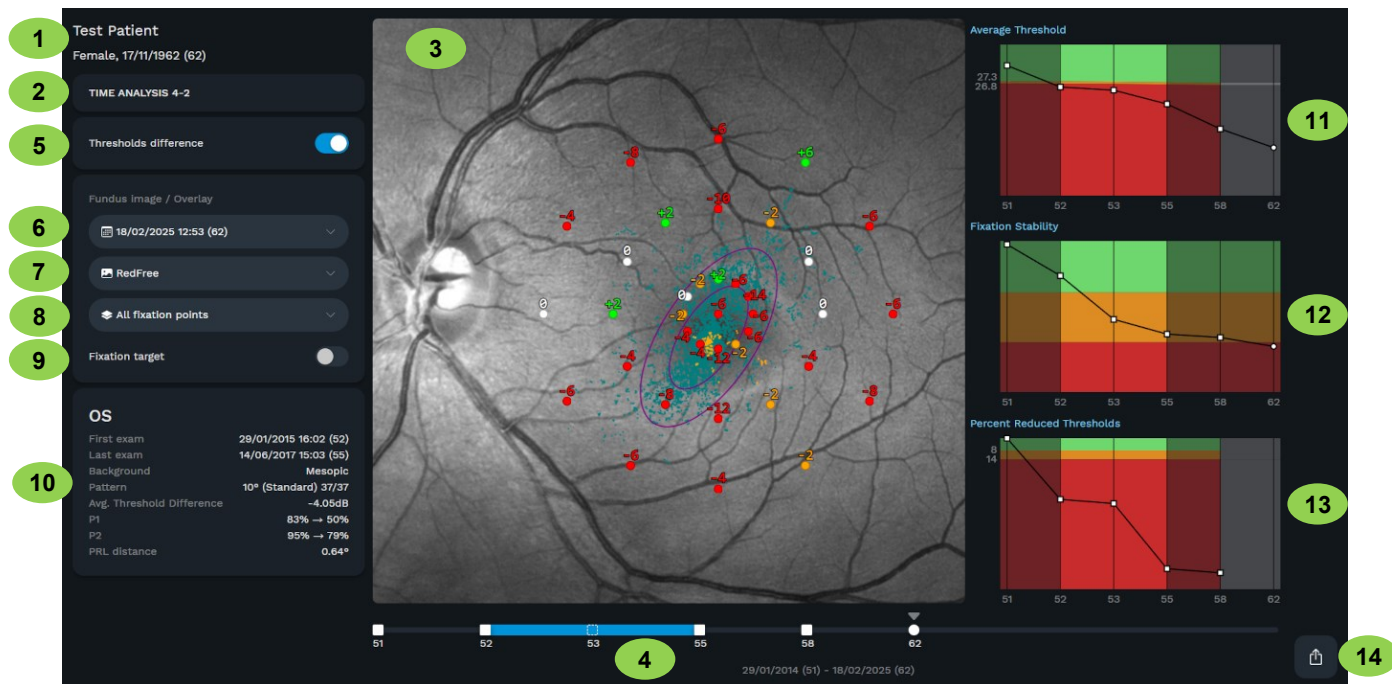

Fig. 64 – Time Analysis screen for a **4-2 Strategy** exam sequence
6. Press **GENERATE** to proceed to the Time Analysis screen (Fig. 64) or **CANCEL** to go back.